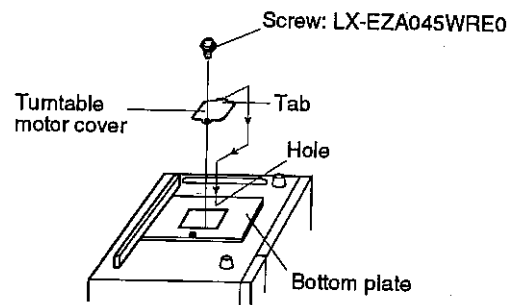

Figure C-3(b). Turntable Motor Cover Re-install
8. Re-install the turntable motor cover to the bottom plate L with the screw which are removed at the above step 2 as shown in Figure C-3(b).